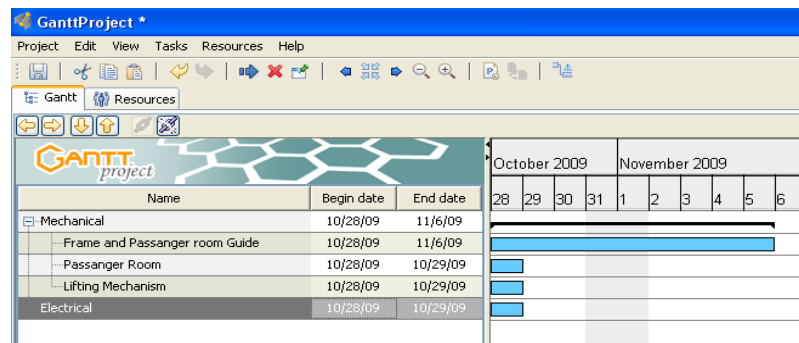

Figure 3.11: Tasks and subtasks
8. Click anywhere in an empty area of the Tasks pane to deselect any tasks, then click the **New Task** button. Specify a name of **Electrical Work**, and then press **ENTER**. Notice that because no task was selected and you did not click the **Indent** button, this task did not become a subtask of **Mechanical Work** as shown in figure 3.11.